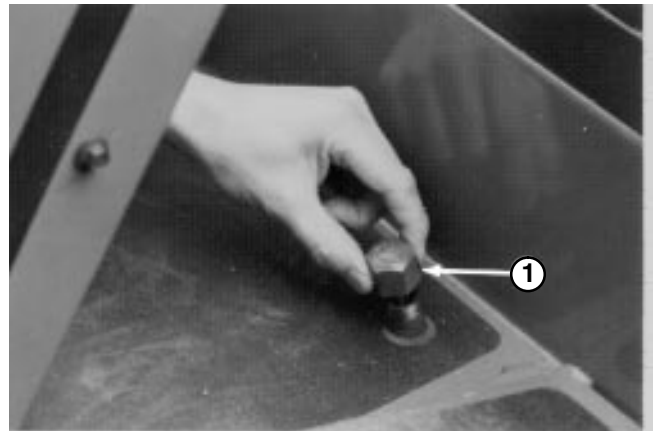

Figure 11
2. Remove dipstick cap (Fig. 11) from filler neck and wipe it with a clean rag. Screw dipstick cap finger-tight onto filler neck; then remove it and check level of fluid. If level is not within 1/2 inch from the groove in the dipstick (Fig. 11), add SAE 10W-30 engine oil, or, if used, automatic transmission fluid to raise level to groove mark. Do not overfill.